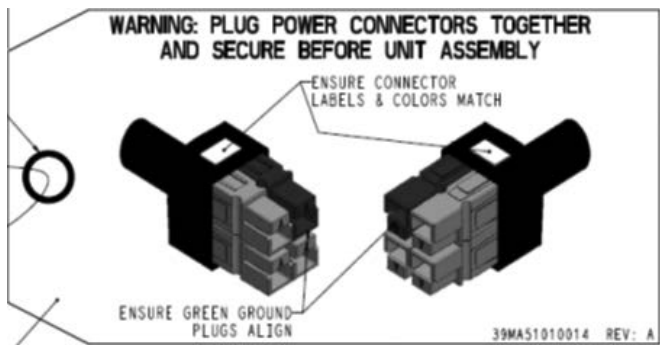
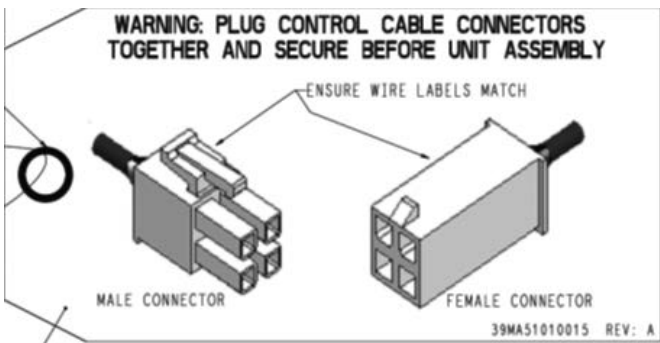

Fig. 27 — Power Plug Connectors Split Tag
Fig. 28 — Control Plug Connectors Split Tag
- Verify that the labels on the power plug connectors (Fig. 27) and, if used, the labels on the control plug connectors (Fig. 28) on both sections match.